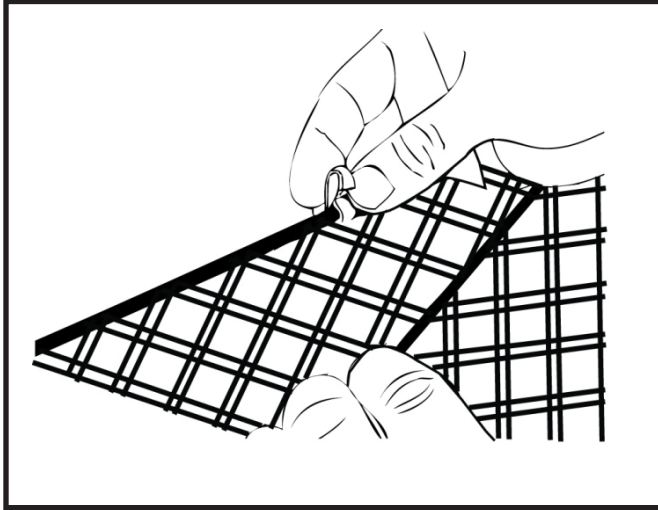

Fig. 5
1. Locate the four hook clips located along the top of the cargo net (Fig.5).